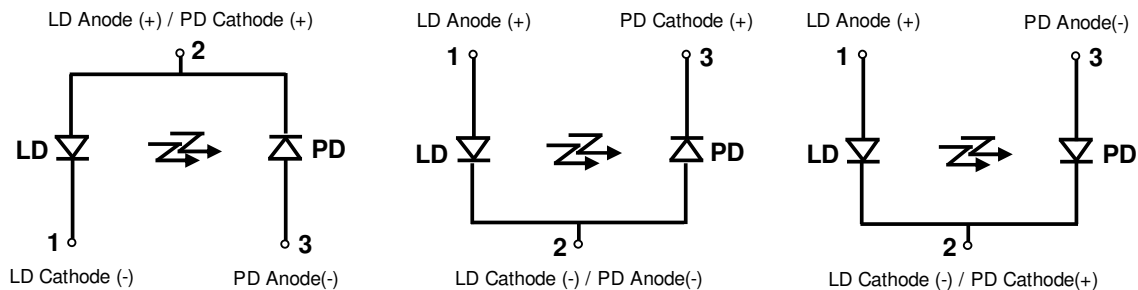

Figure 5 Three popular laser diode configurations
1. Determine the pinout (see figure 5 for examples) from the spec sheet of the laser diode